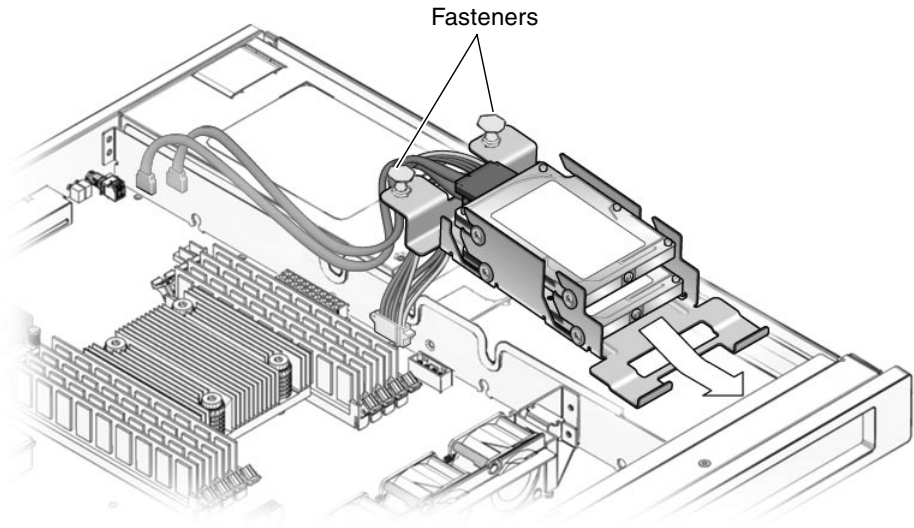

FIGURE 5-10 Installing the Dual-Drive Assembly
3. **Slide the drive assembly into the chassis until it mates with the front of the chassis (FIGURE 5-10).**
4. Push the fasteners down to lock the drive assembly into place in the chassis (FIGURE 5-10).